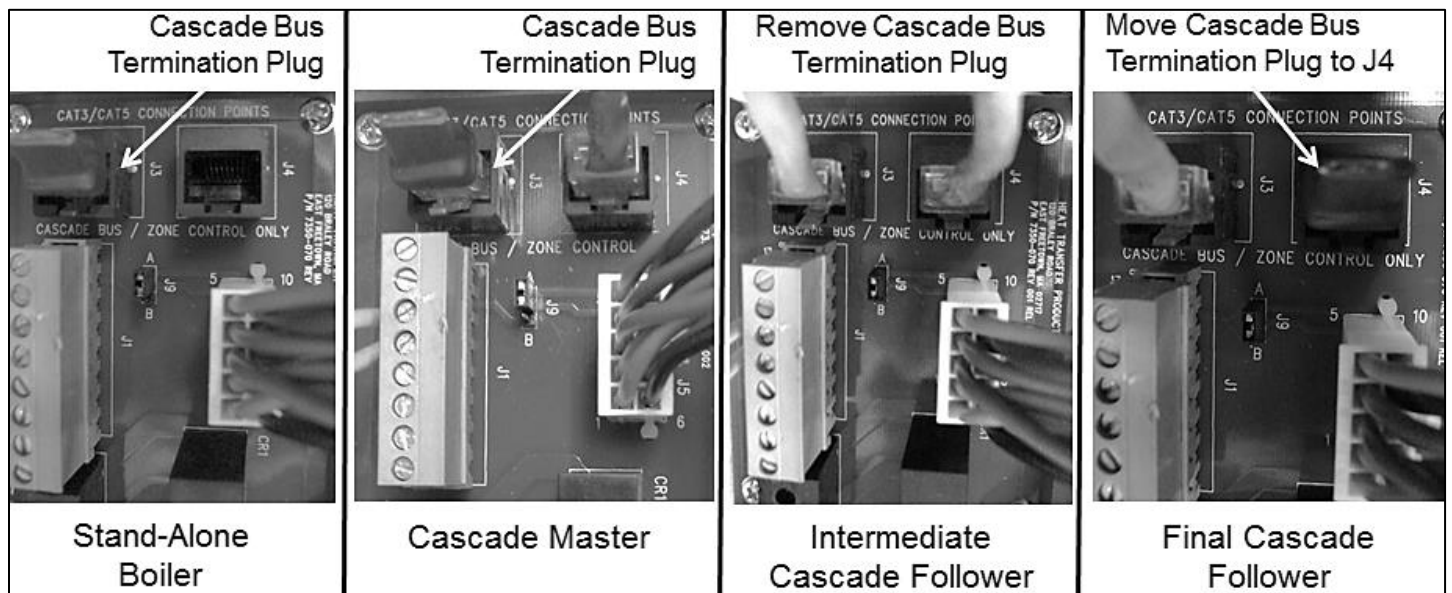

Figure 28 – Cascade Resistor Plug Installation Detail
1. A Cascade Bus Termination Plug has been installed on the customer connection board of this boiler. The purpose of this plug is to stabilize communication between multiple boilers and reduce electrical “noise”. See Figures 28 and 29 for Cascade Bus Termination Plug installation detail.